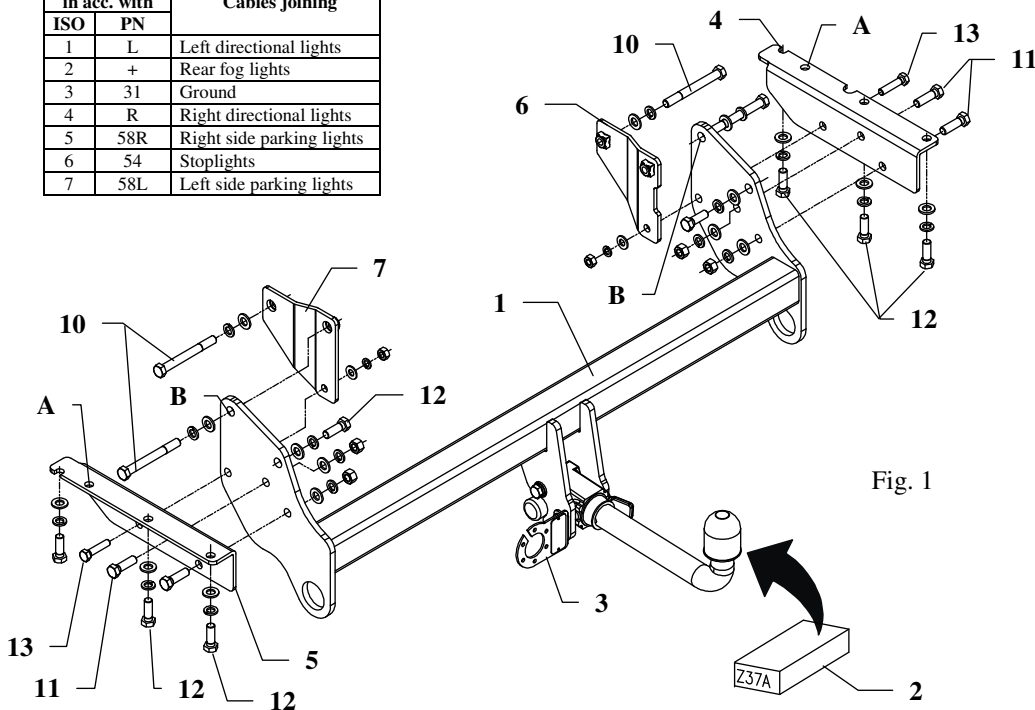
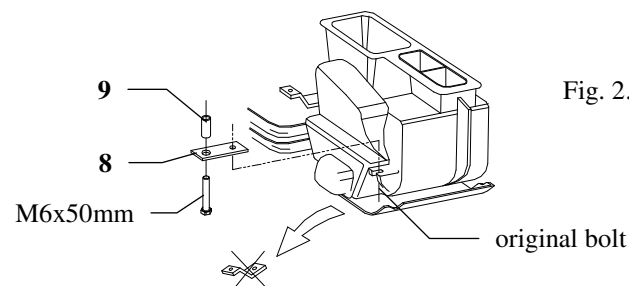

Fig. 1
Fig. 2. Filter installation
2. In long version with air-conditioning disassemble a filter (fig. 2).
3. Put angle bar (pos. 4 and 5) below the car to chassis members in this way so holes in angle bar agree with holes in members and fix by bolts M12x1,25x35mm (pos. 12), see fig.1. **NOTE!** In short version the last bolt fix through hole A of angle bar.
4. Between mounted angle bar put main bar of the towing hitch (pos. 1) and fix by bolts M12x40mm (pos. 11) and:
- **long body version** – put bend fish-plates (pos. 6 and 7) and fix all using bolts M12x110mm (pos. 10) and M10x45mm (pos. 13)
- **short body version**- through holes B fix main bar to the chassis members by bolts M12x110mm (one each side, bend fish-plates pos. 6 and 7 not used)
5. Fix body of the automat and place tow-ball according to supplied instruction. Note! Remember to place socket plate (pos. 3) as shown on the drawing 1.
6. In long version with air-conditioning reassemble a filter (see fig. 2).